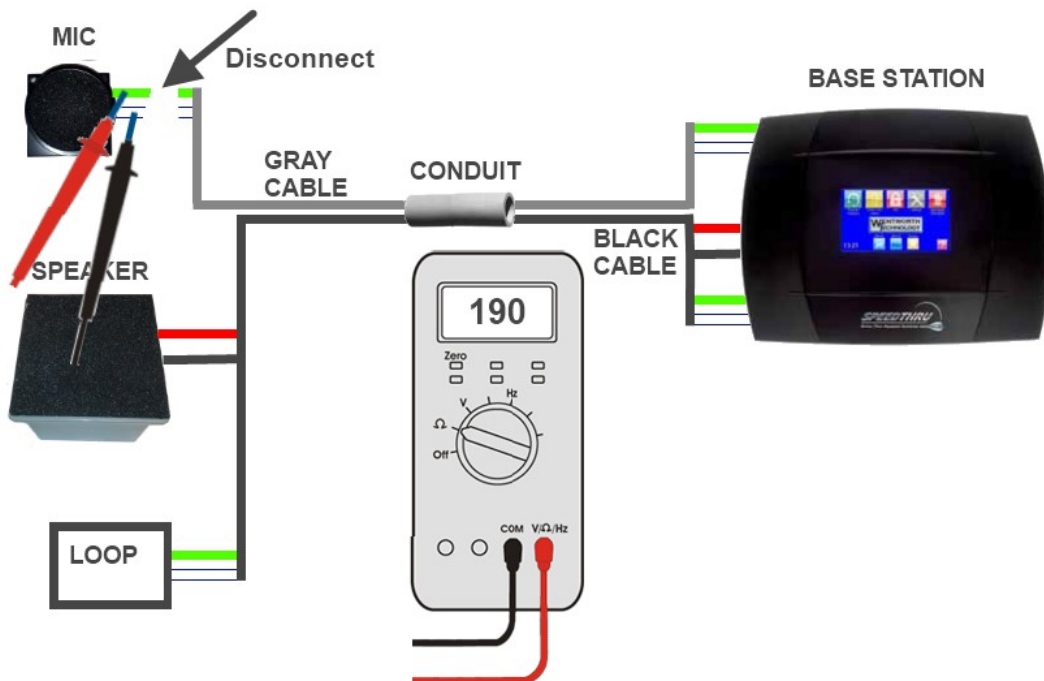

Figure 2: Testing the microphone at the order post (power off base for testing)
4. Go to the post, and disconnect the microphone wires from the cable. Set meter to Ohms and test across the mic wires as shown in Figure 2. It should read between 140-220 Ohms. Wiggle the wires and make sure the reading is steady. If not, replace the microphone. Otherwise, test the cable.